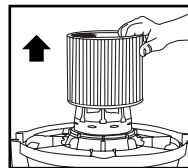

FIGURE 21
26. Slide the cartridge filter off the lid cage. **FIGURE 21.**